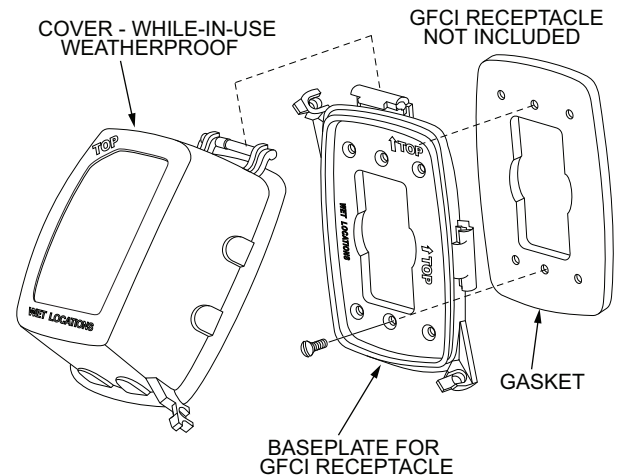

Fig. 24 — Weatherproof Cover Installation
4. Mount the weatherproof cover to the backing plate as shown in Fig. 24.